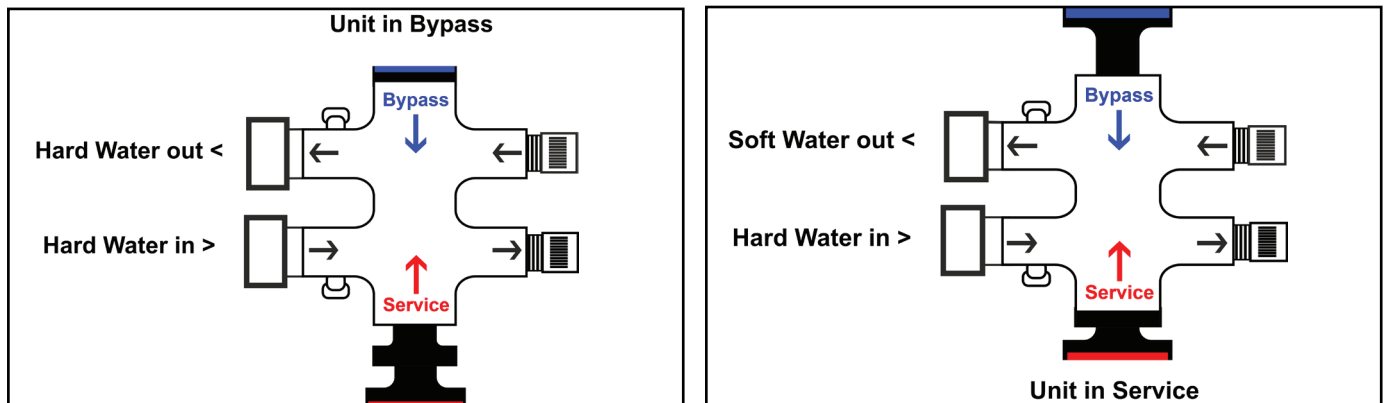

Fig 3.
- Place Rapid-Fit bypass in Bypass position by pushing plunger as per directional arrow - see Fig 3.